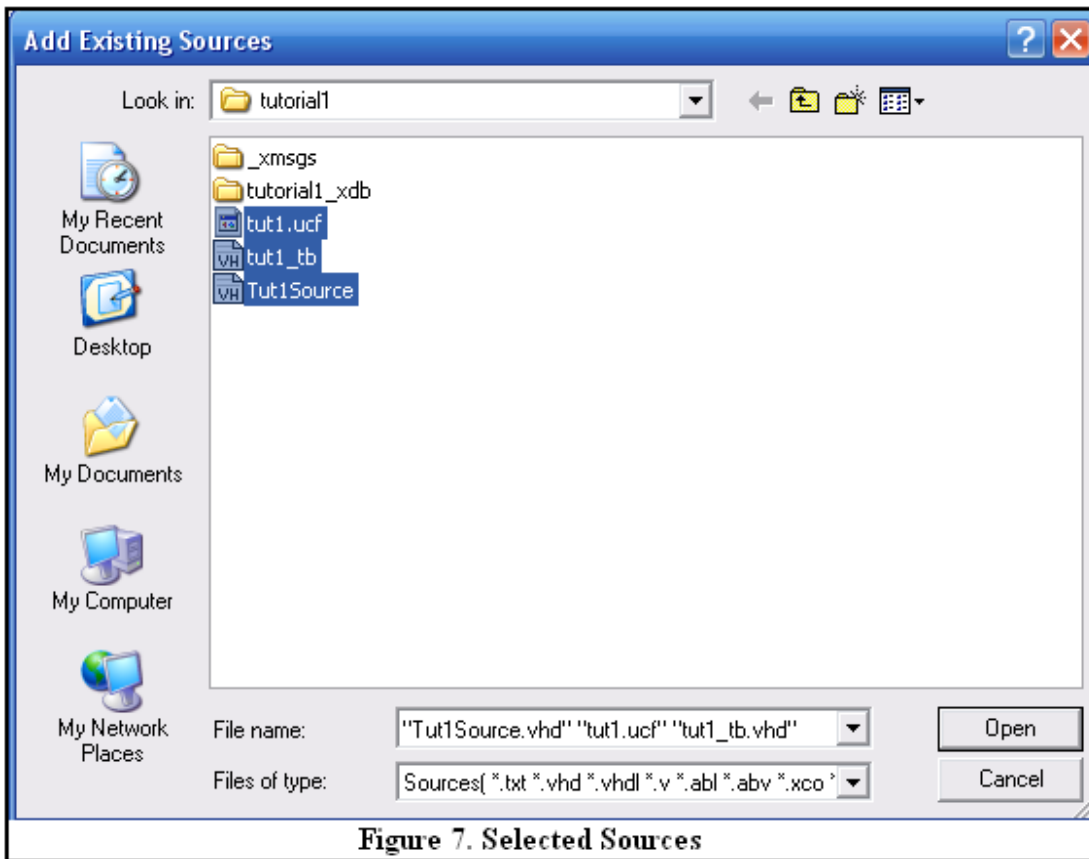

**Figure 5. Device Properties**
3. Set the device properties exactly as shown in figure 5 and continue to select Next until the project is created.